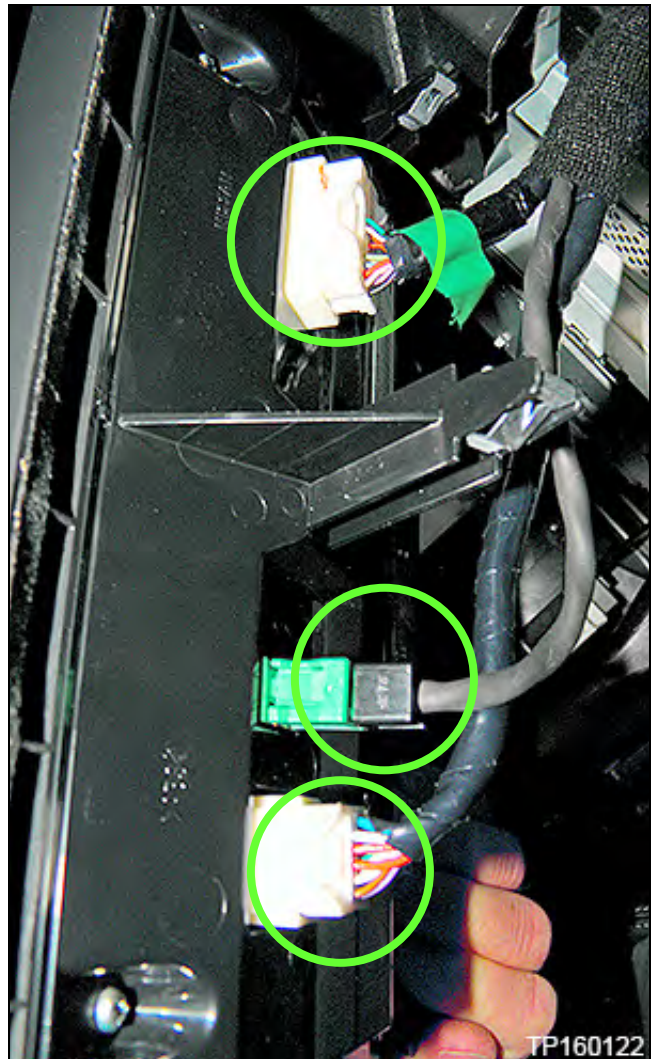

Figure 26D
- c. Disconnect the three harness connectors (Figure 26D) attached to the integral switch.